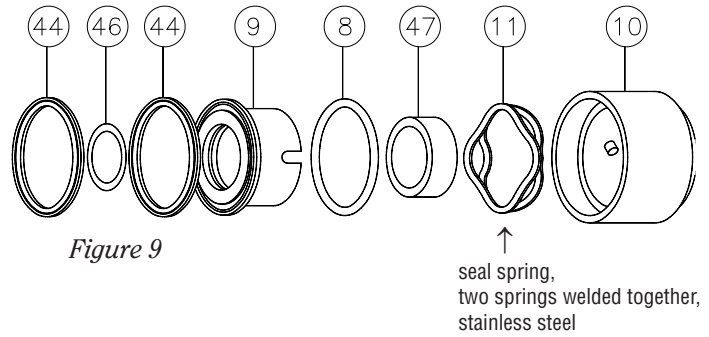

Figure 9
Now install the new rotating seal assembly (Figure 9) which includes: the impeller gasket (44), seal driver (9), rotating seal (10), seal spring (11) and rotating seal o-ring (8) (and the seal driver o-ring on the FPHP 722). First install the seal spring into the rotating seal between the pins and the front seal face. Next, install the rotating seal o-ring into the rotating seal. Align the pins on the rotating seal with the grooves on the seal driver and press the two components together. Lubricate the impeller gasket (if it is not EPDM) with a food grade lubricant such as Haynes CIP-Lube and place it into the groove on the seal driver. Slide the rotating seal assembly onto the shaft so the face of the rotating seal meets the face of the stationary seal.